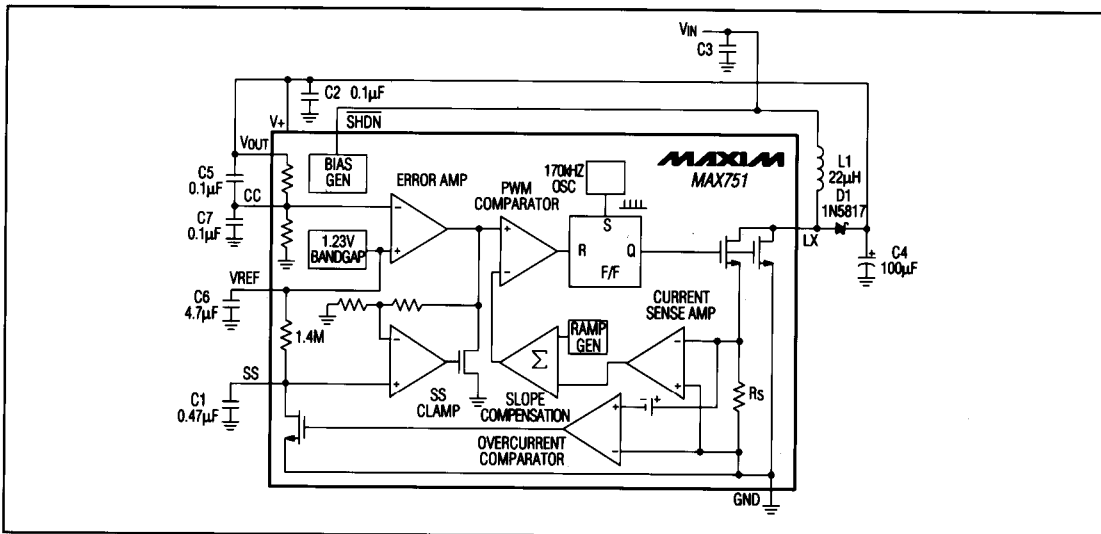

Figure 1. Detailed Block Diagram with External Components, Bootstrapped Mode
(Circuit of Figure 1, VIN = +3V, ILOAD = 0mA, TA = TMIN to TMAX, typical values are at TA = +25°C, unless otherwise noted.)
(Circuit of Figure 1 in bootstrapped mode, $L_1 = 22\mu\text{H}$, $T_A = +25^\circ\text{C}$, unless otherwise noted.)
The controller consists of two feedback loops: an inner (current) loop that monitors the switch current through the current-sense resistor (R_S) and amplifier, and an outer (voltage) loop that monitors the output voltage with an error amplifier (Figure 1). The inner loop performs cycle-by-cycle current limiting, truncating the power transistor on time when the switch current reaches a threshold determined by the outer loop. For example, a sagging output voltage produces an error signal that raises the threshold at the error amp output. This allows the inductor current (which generates the current-sense amp output voltage) to increase, resulting in more energy stored and transferred during each cycle.
The Soft-Start (SS) pin limits power-up current, allowing proper start-up with a load on the output. On power-up, the MAX751 uses the maximum switch duty cycle to draw excessive current to charge the output filter capacitor, and supply current to the load. In this case, the device may stall and the output voltage will not rise to 5V. A capacitor (between 0.047µF and 5µF) is required on SS to ensure proper start-up. The larger the capacitor, the slower the internal current-limit threshold is raised, allowing more time for start-up. As the voltage on the SS pin increases, the voltage at the SS clamp output increases, which in turn increases the current-limit threshold (Figure 1).
Use a Schottky diode with a continuous-current rating of at least 500mA for full-load (≥ 200 mA) operation. The 1N5817 is a good choice. The two compensation capacitor values at the CC input are critical because they have been selected to provide the best transient response. The input capacitor (C3 in Figures 1, 2, and 4) may be omitted if the power supply impedance is very low. Otherwise, up to 100 μ F may be necessary.
The power-up SS charge rate is determined by the time constant formed by the SS capacitor and the internal $1.4\text{M}\Omega \pm 25\%$ resistor between VREF and SS (Figure 1).